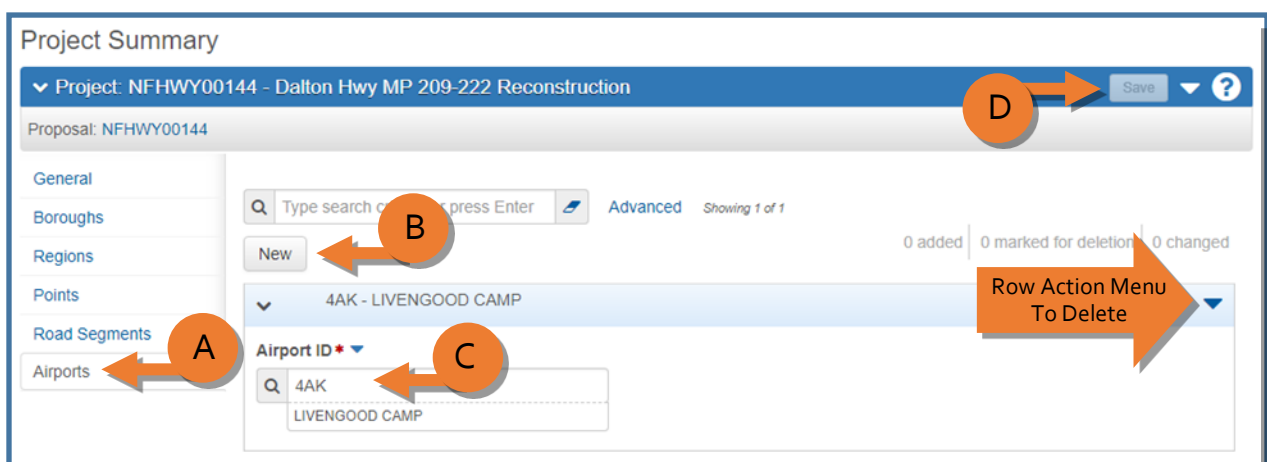

Figure 3.18
1. From the Project Summary component (*Figure 3.18*):
If an airport record needs to be changed, it is not necessary to delete the existing airport record and create a new one. Simply modify the existing record (see *Figure 3.18*).
2. Expand the **row actions menu** on the right side of the airport record and select **Delete** (see *Figure 3.18*). The airport record is marked for deletion and users may “undo”  the action until the user clicks **<Save>**.